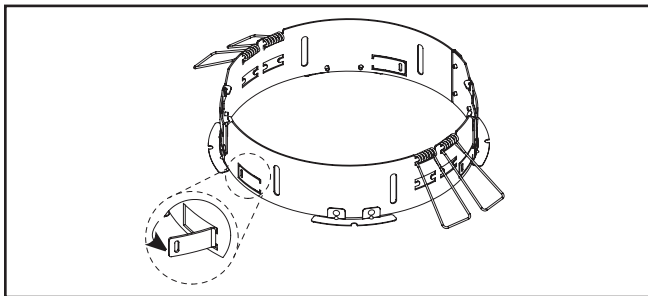

Figure 32.
6. To prevent movement in the housing/ceiling opening use a flat head screw driver to pry out 4 centering tabs on Retrofit Ring Assembly (Figure 32.).